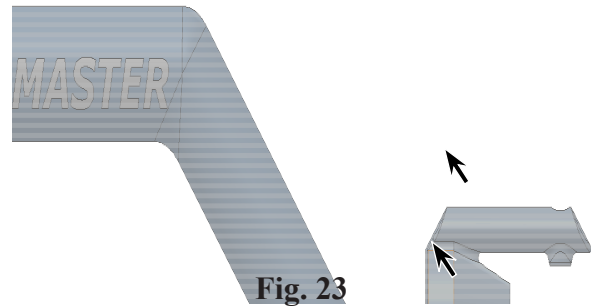

Fig. 23
Step 2. Click **cylindrical face of output on Pipe** and **cylindrical face of Nozzle**, Fig. 23.